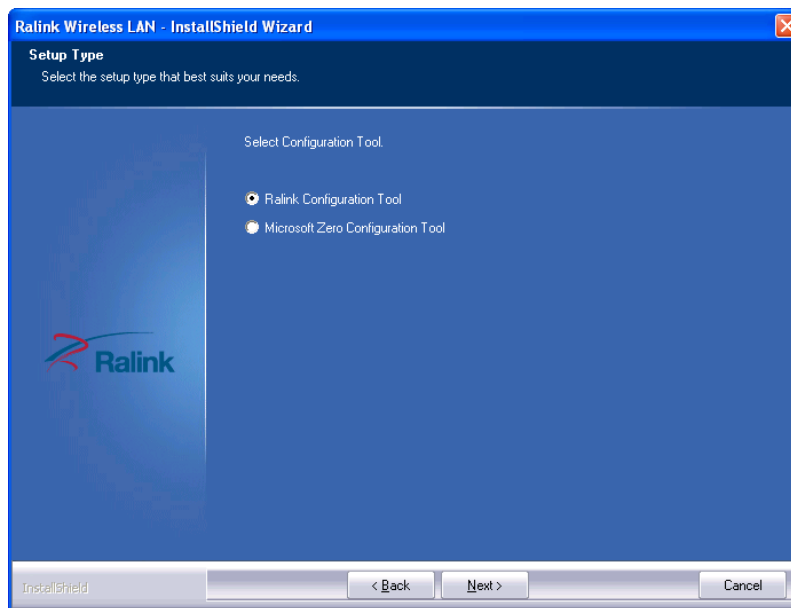

Figure 3-3: Configuration Tool
Step 7: The **Configuration Tool** screen in **Figure 3-3** appears.